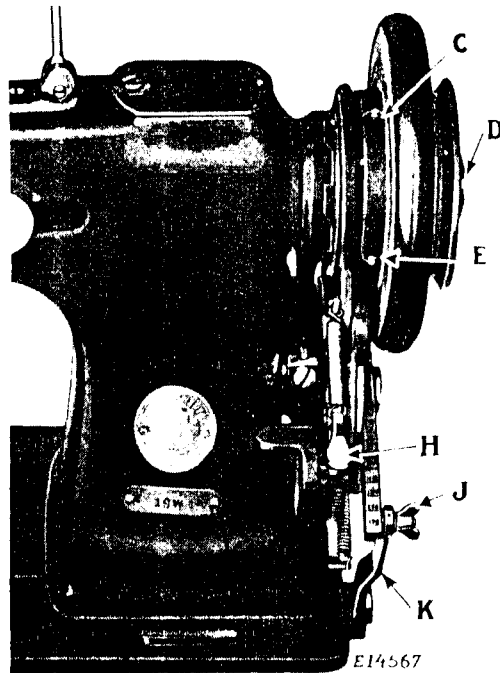

Fig. 10. Stop Motion Adjustments
The number of stitches in the eyelet is regulated by the lever (K, Fig. 10). To increase the number of stitches in the eyelet loosen the wing nut (J) which holds the lever in position and move the lever (K) toward you. To decrease the number of stitches in the eyelet move the lever (K) away from you. When the number of stitches in the eyelet is increased the stitches will be placed closer together. When the number of stitches in the eyelet is decreased the stitches will be placed farther apart. Care should be taken to see that the wing nut (J) is securely tightened before starting the machine.
The machine may be stopped at any time during the operation of stitching by pressing down on the emergency stop handle (H, Fig.10).
Through the oil hole near the needle bar, loosen the set screw and remove the check and position screws from the take-up cam, remove the arm shaft bushing (front) position screw from the back of the arm, remove the set screws from the needle bar frame driving cam and detach the arm shaft connections, remove screw (D, Fig. 10), take out check screw at (C), loosen the position screw at (C), (exposed by the removal of check screw), loosen position screw (E), remove the balance wheel, the needle and presser bars; insert a light flexible rod through the large hole over the arm shaft connections, drive out the front bushing and draw out the arm shaft. When replacing the bushing, see that the oil hole for oiling the shaft is in line with the oil hole on the arm, and return the bushing position screw to its place. When a new bushing is used, drill the oil hole through into the shaft hole after the bushing is set in the arm. When setting the take-up cam, be sure to replace the position screw in the hole nearest to the presser bar when the screw holes are uppermost and tighten the position screw firmly down into the shaft, and replace the check screw over it. The end play of the arm shaft is taken up by means of the screw (D) in the end of the shaft at the balance wheel.